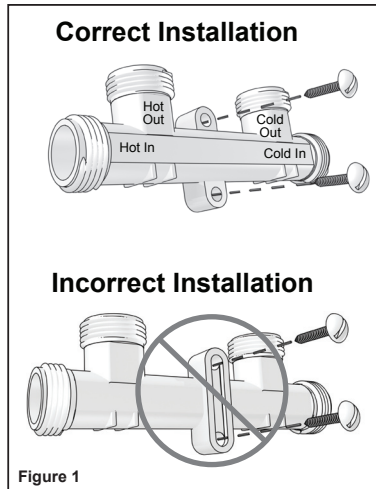

Figure 1
6. If desired, Sensor Valve can be mounted to the wall with the mounting screws (see Figure 1).